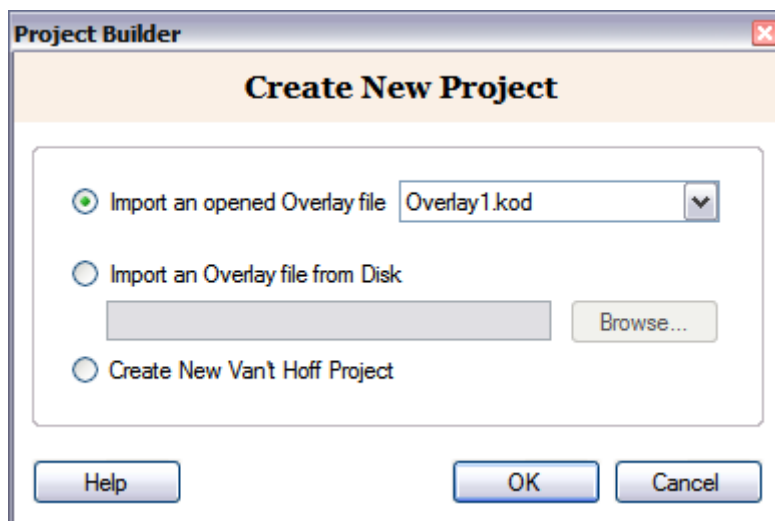

Figure 3.12 - Creating a new Project with the Project Builder
- b.) Select your Overlay in the dropdown box in the *Project Builder* dialog as shown in Figure 3.12. Press **OK** to create the new Project.